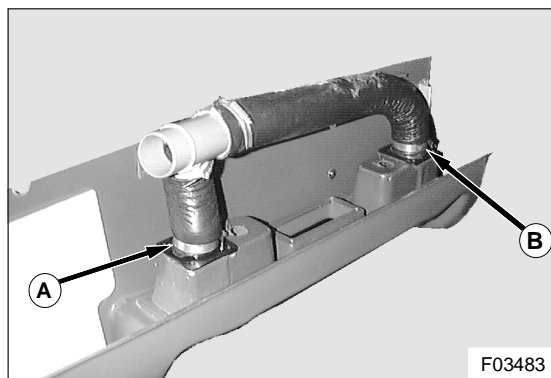

Figure 14: ABS rear bench moulding hose clamps and mounting flanges (rear view)
1. Slacken hose clamps A and B and remove airhoses and Y-piece from mounting flanges in moulding (see Figure 14). Retain hose clamps.